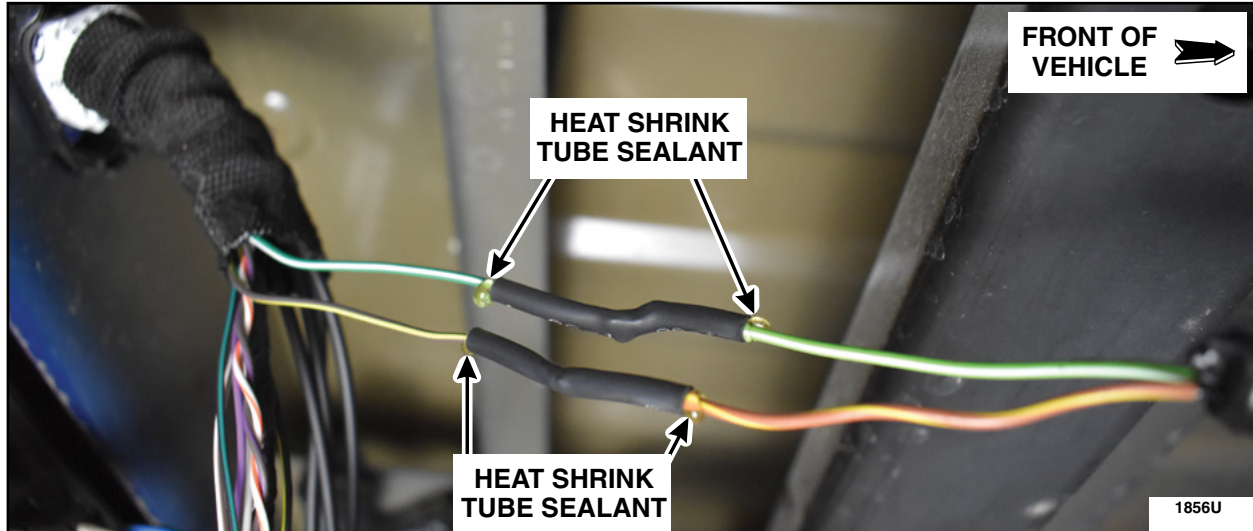

FIGURE 76
22. Position the dual wall heat shrink tubes over the solder joints making sure the joints are located in the middle of the tubes. Evenly heat up the heat shrink tubes until the heat shrink tube sealant bubbles out of both ends. See Figure 76.